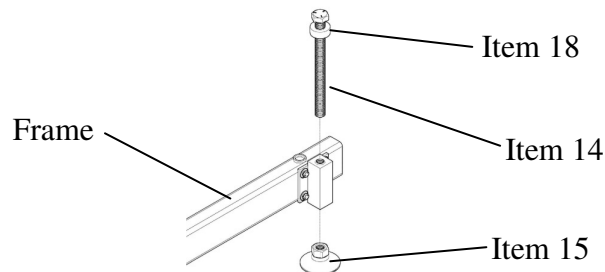

Figure 1
1. Install a 1" Shaft Collar (item 18) onto each Stabilizer screw (item 14). Slide the shaft collar up to the Nut at the top of the stabilizer screw and loosely tighten the set screw to keep the collar from sliding during assembly.
2. Install the Stabilizer screws (item 14) into the frame as shown in figure 1. Adjust the stabilizer screw with about 1" to 1-1/2" of the screw extended below the frame brackets.